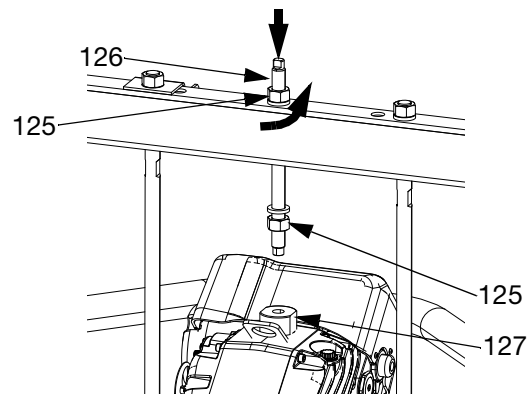

FIG. 28: 55 Gallon Platen
- a. *D200 3 in. and D200s 6.5 in. supply units:* Loosen nut (125) below crossbar. Use wrench to hold lift ring adapter (127) in place and loosen threaded rod (126) above crossbar with another wrench. See FIG. 28.